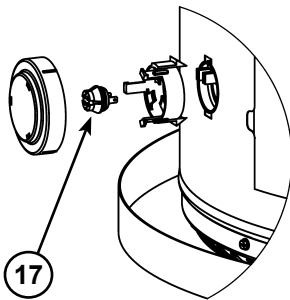

Figure 8
17. Flammable Vapour Sensor (under cover) (see Figure 8)